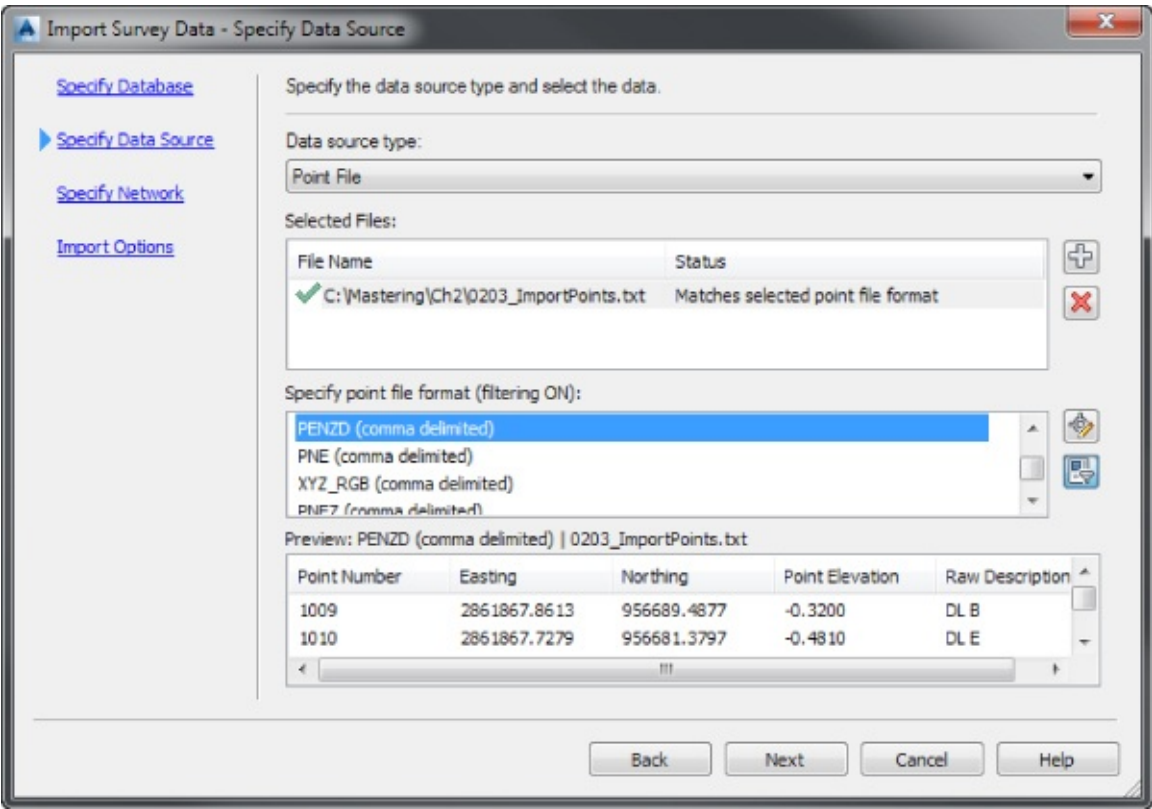

Figure 2.15 Select the correct source type, file, and format in the Import Survey Data Wizard.
9. Select the file and then click Open, and the name will be listed in the dialog, as shown in Figure 2.15.
- The preview will show that the correct data type is selected, as shown at the bottom of Figure 2.15.